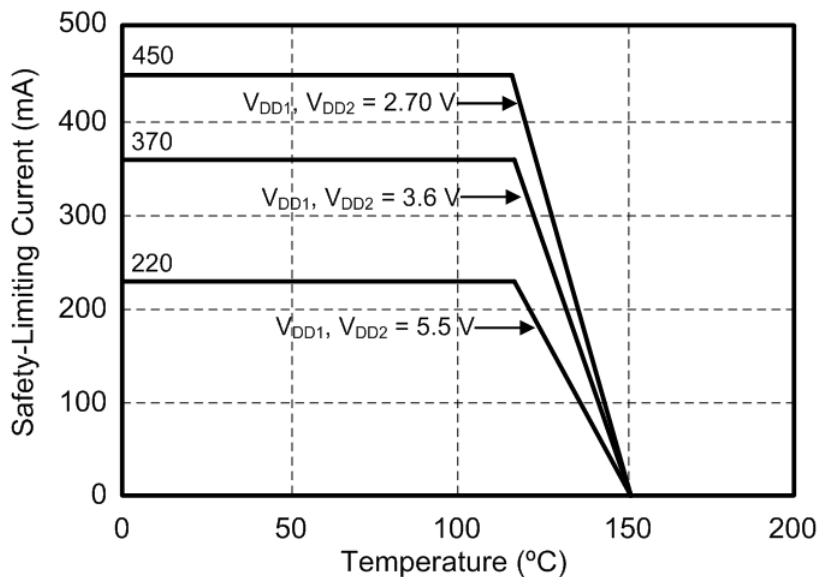

Figure 4.4. (WB SOIC-16) Thermal Derating Curve, Dependence of Safety Limiting Values with Case Temperature per VDE 0884-10
1. Maximum value allowed in the event of a failure; also see the thermal derating curve in [Figure 4.4 \(WB SOIC-16\) Thermal Derating Curve, Dependence of Safety Limiting Values with Case Temperature per VDE 0884-10 on page 27](#) and [Figure 4.5 \(NB SOIC-16, QSOP-16\) Thermal Derating Curve, Dependence of Safety Limiting Values with Case Temperature per VDE 0884-10 on page 27](#).